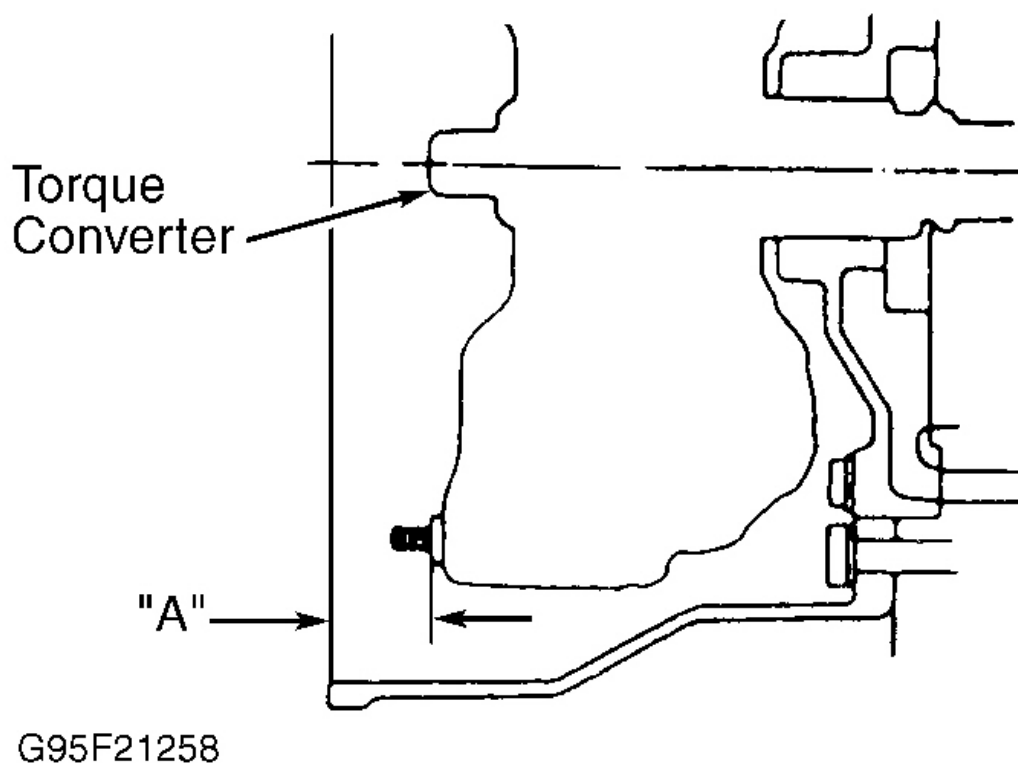

Fig. 52: Measuring Torque Converter Installed Depth
19. Install control shaft lever with spring washer and nut. Tighten nut to 115 INCH lbs. (13 N.m). Install wire harness and throttle cable clamp. Install torque converter. Ensure torque converter is installed correctly. Using a straightedge and calipers, measure torque converter depth. See **TORQUE CONVERTER INSTALLED DEPTH SPECIFICATIONS** table. See **Fig. 52** .
(1) See Fig. 52 .